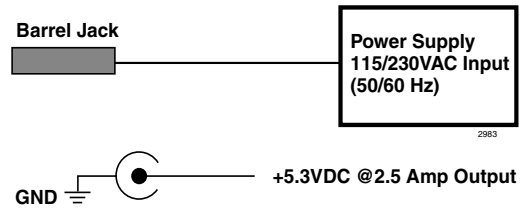

Figure 20 Barrel-jack Connection
Toshiba provides an optional universal 110/230VAC, 50/60 Hz power supply with a barrel-jack connection to the Base Station (see Figure 20 on Page 23).
Note The power supply includes a cable with a barrel-jack connection (see Figure 20) to the BSIA and 110VAC cable.
2. Connect the barrel jack to the BSIA at J1 (see Figure 20).